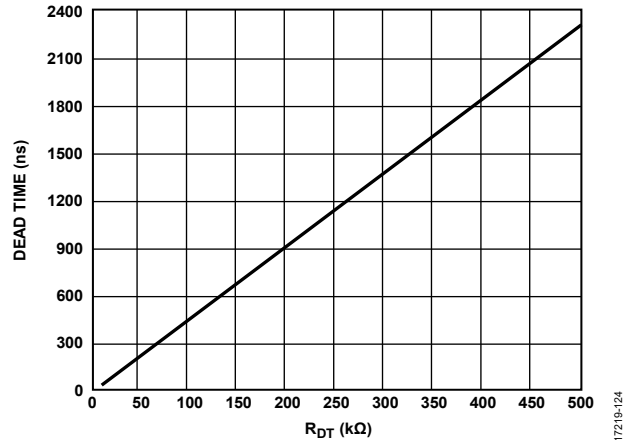
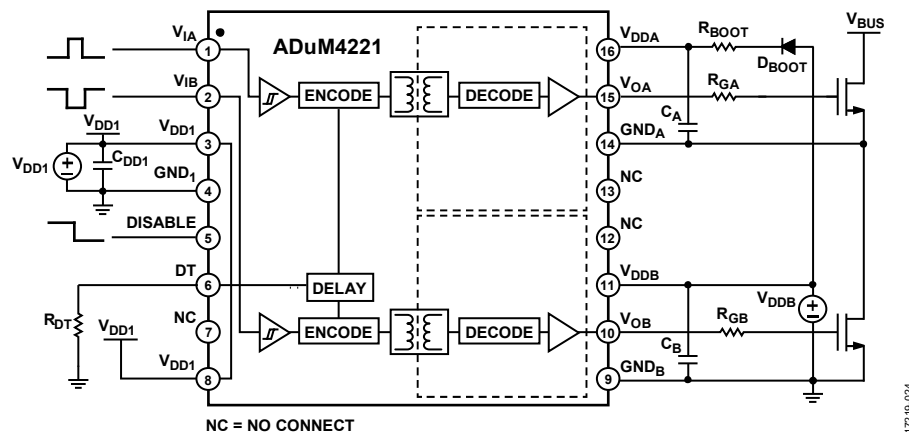

Figure 35. Dead Time vs. R_{DT}
Figure 38. Bootstrapped, Half Bridge Operation Circuit for the ADuM4221
The ADuM4221/ADuM4221-1 include overlap protection such that the gate driver outputs (V_{OA} and V_{OB}) cannot simultaneously go high even if both inputs are high. Additionally, the ADuM4221/ADuM4221-1 also have a dead time control pin (DT) that can adjust the delay between the output high-side and low-side transitions by using a single resistor between the DT pin and ground (see Figure 38). The relationship between the dead time resistor (R_{DT}) and the obtained dead time is shown in Figure 35.
One method to reduce power supplies is to use a bootstrapped configuration for the high-side supply of the ADuM4221 (see Figure 38). A similar setup can also be obtained for the ADuM4221-1/ADuM4221-2. In this topology, the decoupling
Note that in Figure 38, D_{BOOT} is the bootstrapped diode, C_{DD1} is the decoupling capacitor on the input side, and C_B is the decoupling capacitor for the driver low-side supply.